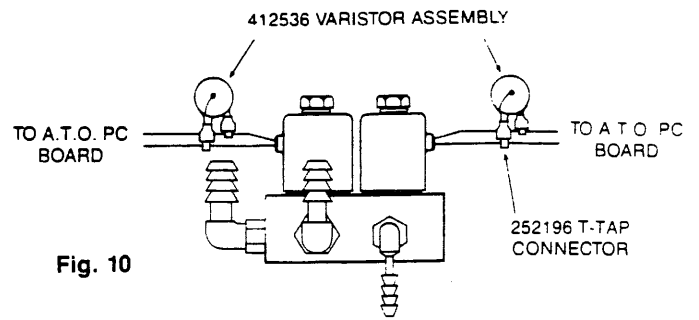

Fig. 10
16. Secure 4 T-Tap connectors to the 4 wires from the air valve solenoids. (Fig. 10) Secure the two 412536 varistor assemblies to the T-Tap connectors as shown in Fig. 10.